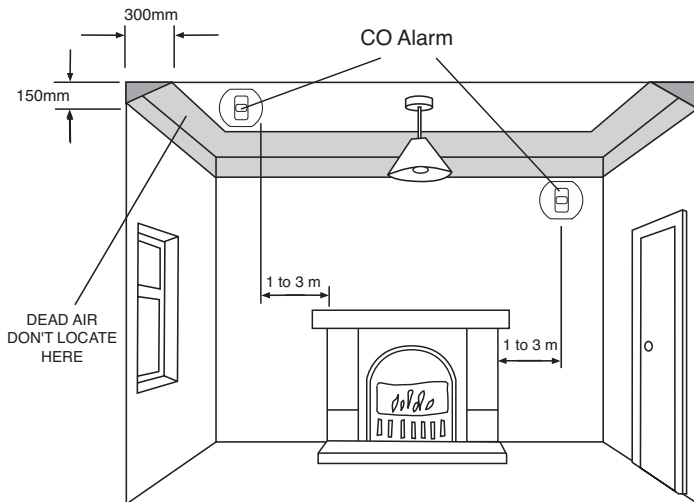

Figure 1
3.31 If locating the CO alarm in a room with a fuel burning appliance (see figure 1)